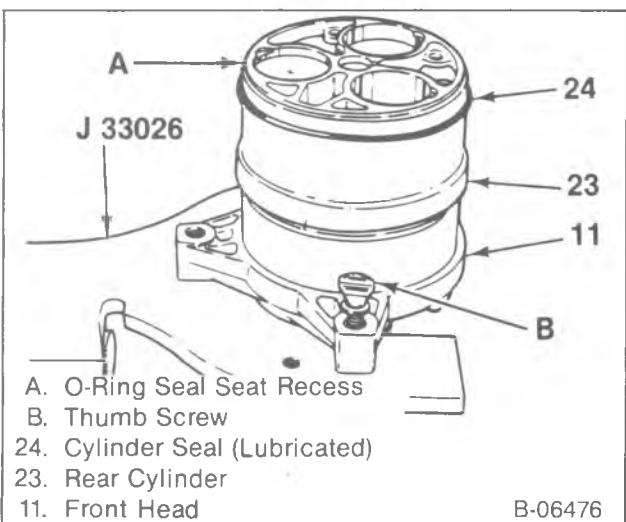

Figure 30—Installing the O-Ring Seals on the Cylinder Seal Races
- Using a wood block, tap around the edge of the rear head (28) to ease removal.
- Mount the compressor on J 33026 front head (11) down (figure 30).
7. Head gasket (27).
- Lubricate a new cylinder seal (24) with clean 525 viscosity refrigerant oil and position the seal on the rear cylinder (23) (figure 30). Roll the cylinder seal into the groove. Cylinder (23) surface must be clean at the rear.